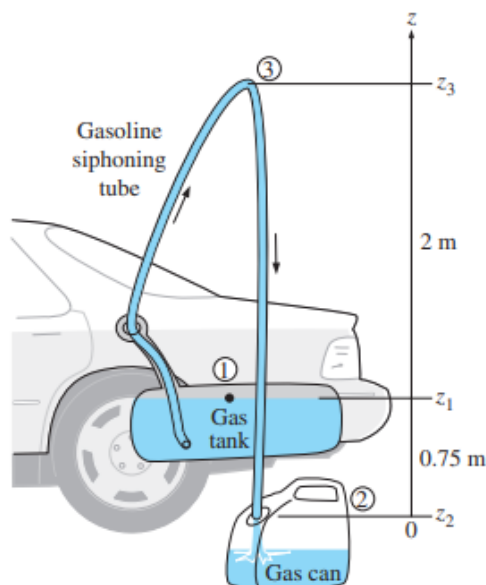

Figure 3-Fuel canister
b) Consider the scenario in Figure 3. Fuel is being syphoned from a car into a canister. The atmospheric pressure for the day is 101 kPa. By applying Bernoulli's equation between point 1 and 2 find the velocity of the fuel at point 2.